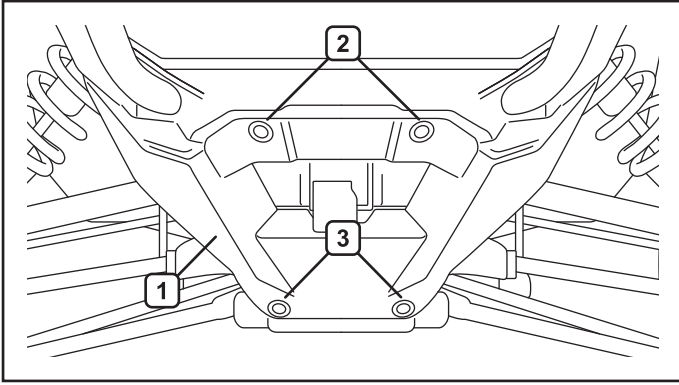

Figure 1.
1. Remove winch cover (1) by removing four bolts (2, 3) as shown in figure 1.